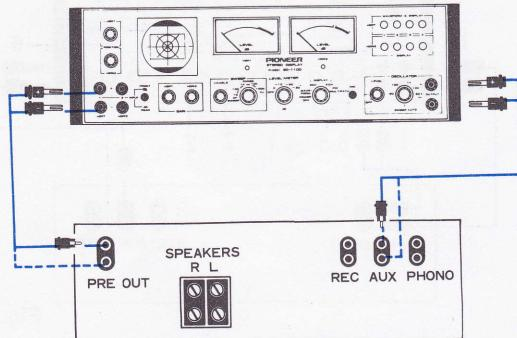

Fig. 6
4.4 FREQUENCY RESPONSE OBSERVATION (Fig. 6, 7)